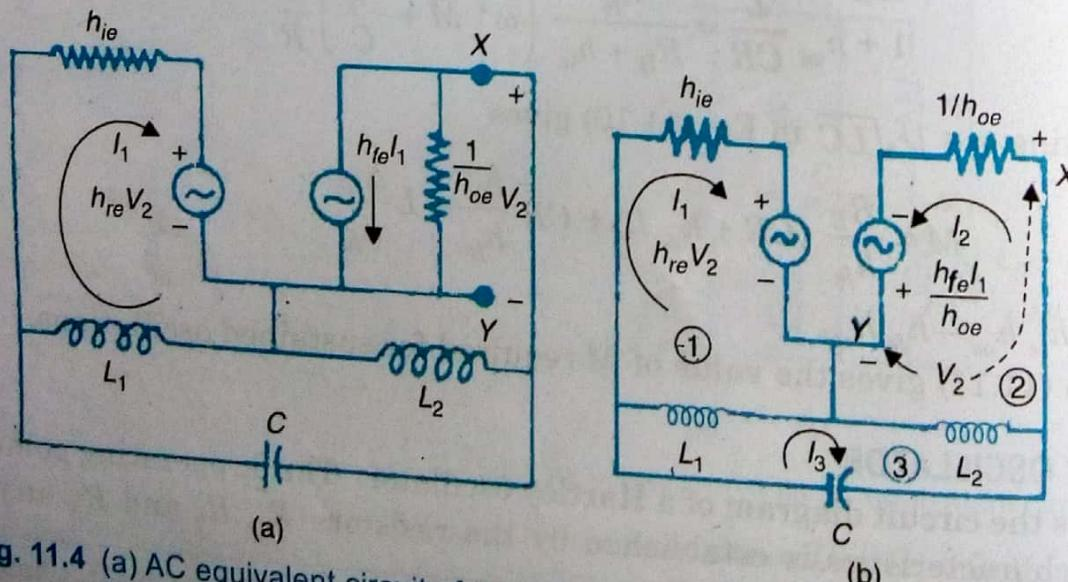

Fig. 11.4 (a) AC equivalent circuit of the Hartley oscillator, (b) AC equivalent circuit with the current source replaced by an equivalent voltage source.
The ac operation of the circuit is not affected by the resistances R_1 and R_2 which are large. The resistance R_E is also ineffective in the ac behaviour due to the bypass capacitor C_E . The hybrid model ac equivalent circuit of the Hartley oscillator is depicted in Fig. 11.4(a).
We apply Thevenin's theorem looking towards the left at the terminals X, Y in the circuit of Fig. 11.4(a). The current source $h_{fe} I_1$ in shunt with the resistance $(1/h_{oe})$ is replaced by an equivalent Thevenin voltage source of generated voltage $(h_{fe} I_1/h_{oe})$ and internal resistance $(1/h_{oe})$. The equivalent circuit with this Thevenin representation is given in Fig 11.4(b). We neglect here, for simplicity, the mutual inductance between L_1 and L_2 .
From Fig. 11.4(b), we obtain for the voltage across the terminals X, Y
The Kirchhoff voltage law equations for the loops (1), (2), and (3) in Fig. 11.4(b) are, respectively,